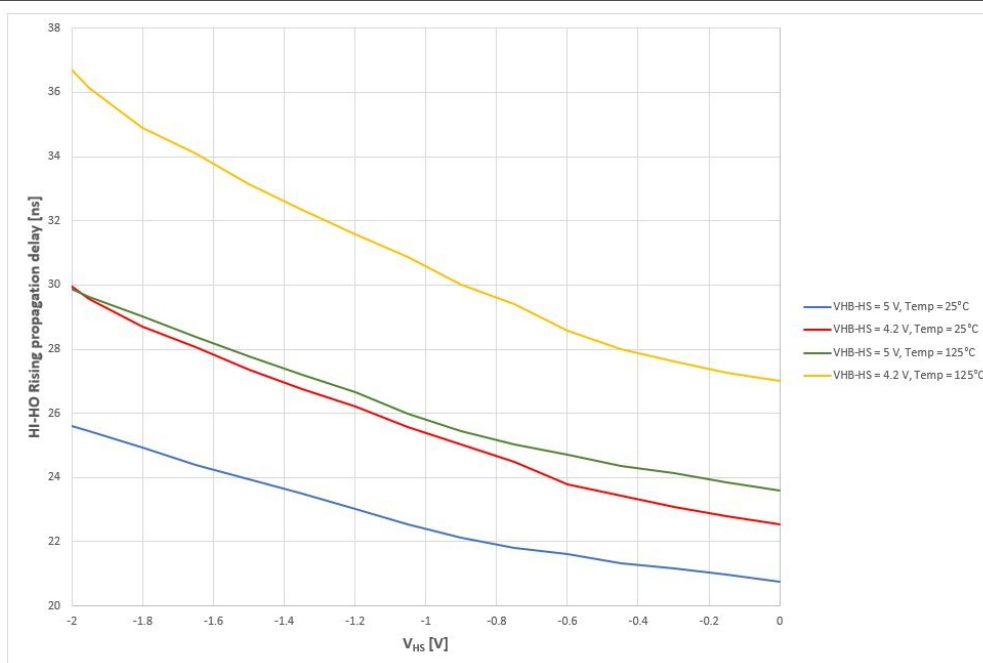

Figure 25 High-side rising propagation delay vs. negative HS voltage
The interface between the low voltage domain (e.g. high-side input signal which is referenced to VSS) to the high voltage domain, which is referenced to the HS node, is the level shifter. It allows control of the high-side output (HO) which is referenced to the switching node (HS). Having a low propagation delay while consuming less bias current are the desired characteristics of a level shifter especially for applications operating at very high switching frequency. In applications where the switch node (HS) goes negative (e.g. soft-switching), the turn-on propagation delay of the high-side output (HO) increases as the HS node becomes more negative. Figure 25 shows the variation of the high-side rising propagation delay against a static negative HS voltage at different bootstrap capacitor voltage and operating temperature. The minimum recommended negative HS voltage is -2 V. If this voltage is exceeded, the high-side output may not respond until the HS pin voltage returns within the recommended range. Refer to "Driving transistors with high reverse voltage drop \(VSD\)" under the application information section for additional information.